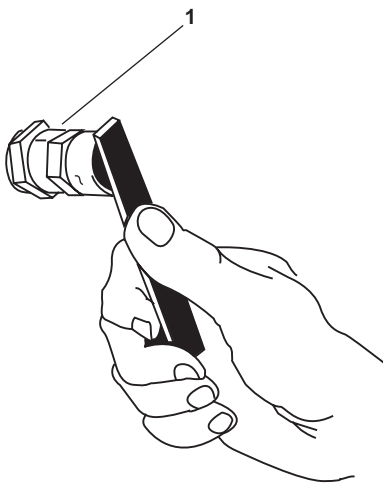

Figure 10. Main Engine Test Valve
- a. Open the test valves (figure 10, item 1) on both sides of the starboard main engine, approximately ½ inch.
- d. Check the starboard main engine test valves (figure 10, item 1) and air box blow down valves (figure 2, item 6) for the presence of oil and/or water. If no oil or water are detected, continue with this procedure. If oil or water are detected, notify the maintenance supervisor.
- e. Shut all the test valves (figure 10, item 1).
- a. Open the test valves (figure 10, item 1) on both sides of the port main engine, approximately ½ inch.